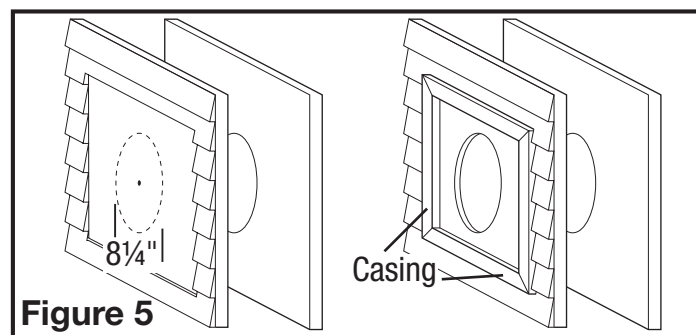

Figure 5
7. In the center of the 14-1/2" square cut in step 5, mark and cut a 8-1/4" diameter hole through the wall sheathing (**Figure 5**).
8. Install 1" x 2" casing strips (not included) for support on the edges of the 14-1/2" square hole. Secure casing strips to plywood sheathing with screws or nails (not included) and seal where the strips meet the plywood with caulk (**Figure 5**).